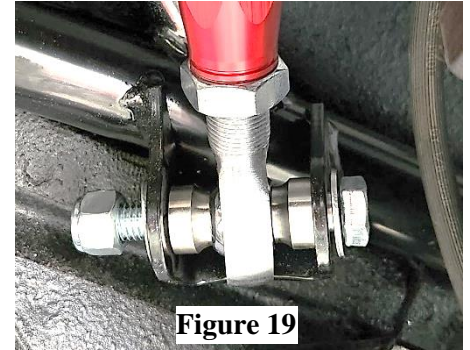

Figure 19
14. With one SG12-88 spacer on each side of the red anodized upper trailing arms, install the upper trailing arm into the inner mounting tabs at the front of the crossmember. (**Figure 19**) Secure using 1/2"x 3.25" hardware with two washers and one nyloc nut per connection. Torque to 50 lb. ft.